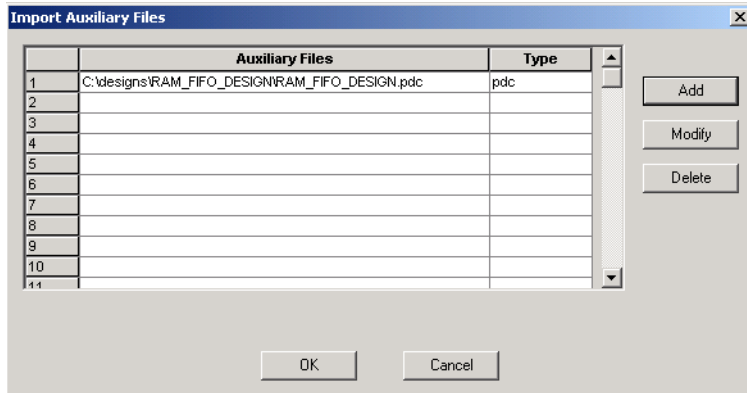

Figure 2-9. File Added to the Import Auxiliary Files Dialog
3. **Select your file and click *Import*. The file is added to the Import Auxiliary Files dialog box, as shown in Figure 2-9.**